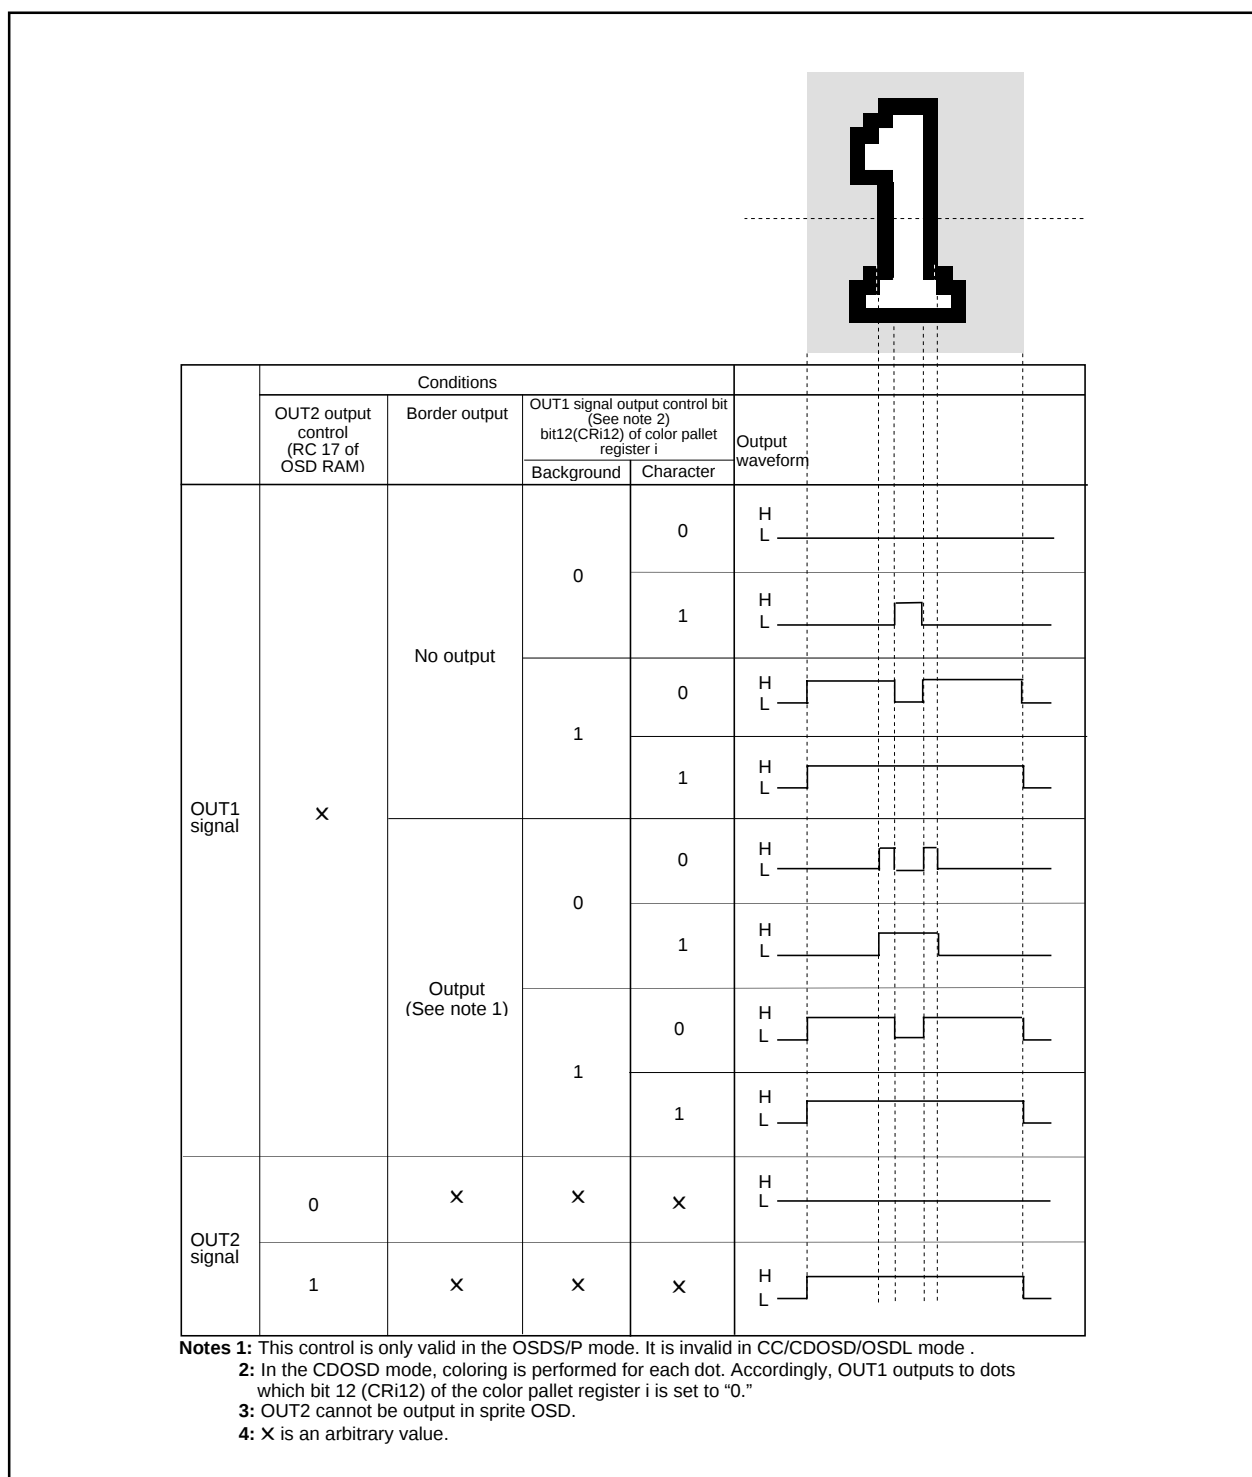

Figure 2.16.30 Setting value for controlling OUT1, OUT2 and corresponding output waveform
The OUT1, OUT2 signals are used to control the luminance of the video signal. The output waveform of the OUT1, OUT2 signals is controlled by bit 6 of the color palette register i (refer to Figure 2.16.29), bits 0 to 2 of the block control register i (refer to Figure 2.16.4) and RC17 of OSD RAM. The setting values for controlling OUT1, OUT2 and the corresponding output waveform is shown in Figure 2.16.30.
The display example attribute is shown in Figure 2.16.30. In this case, "R" is displayed.
- 4: When the pre-divide ratio = 1, the italic character with slant of 1 dot  $\times 5$  steps is displayed ; when the pre-divide ratio = 2, the italic character with slant of 1/2 dot  $\times 10$  steps is displayed (refer to Figure 2.16.30 (c), (d)). However, when displaying the italic character with the pre-divide ratio = 1, set the OSD clock frequency to 11 MHz to 14 MHz.